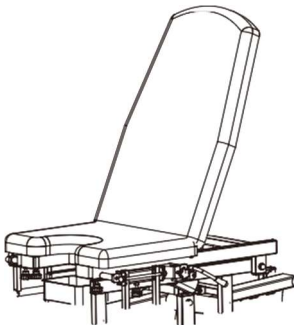

Figure 13
- When the desired angle is reached, release the control lever to be parallel to the chair surface and the chair surface angle will be locked. (Figure 13)